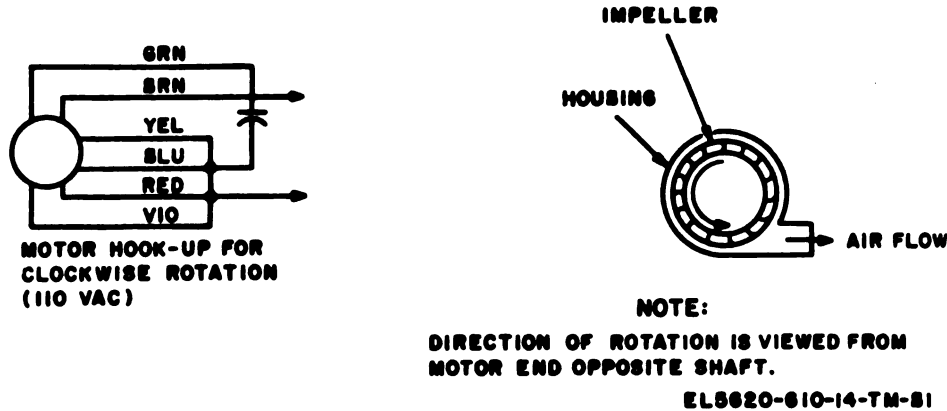

Figure 4-1. Exhaust blower, wiring diagram.
b. The schematic diagrams that are required by the repair technician to troubleshoot the equipment covered in this manual are listed in (1) through (10) below.
(1) *Figure 4-1*. Exhaust blower, wiring diagram.